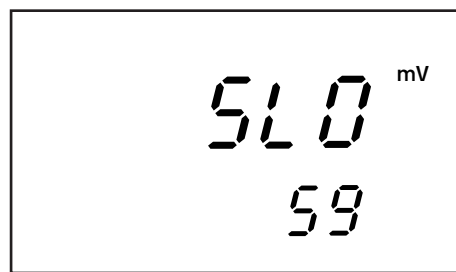
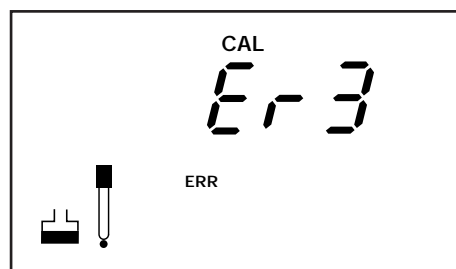

Figure 35
Figure 36
If you are performing a 2-point ion calibration, press **CAL/MEAS**. "SLO" appears in the primary display with the mV indicator, the number in the secondary display is the actual electrode slope in mV. —See Figure 35. After a few seconds the meter reverts to the measurement mode. You are now ready to take ion measurements. If the slope is outside acceptable limits or if incorrect standards have been used the primary display will show **Er3**. —See Figure 36.
10. Allow meter to stabilize in the next calibration standard. Wait for the **READY** indicator to appear before you press the **ENTER** key to confirm the third calibration point. The primary display flashes for a few seconds then "SLO" appears in the primary display with the mV indicator, the number in the secondary display is the average electrode slope in mV. —See Figure 35. After a few seconds the meter reverts to the measurement mode. You are now ready to take ion measurement.